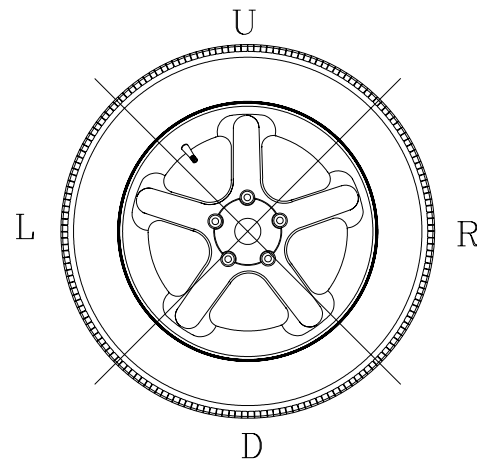

Figure 25
**C.** The wheel weight could have been placed at a wrong position. To check this, position the wheel at the correction position for the outer plane. If the wheel weight previously attached is in sector 'L' or 'R' ( Figure 25), move the wheel weight up about 1" (2.54cm).